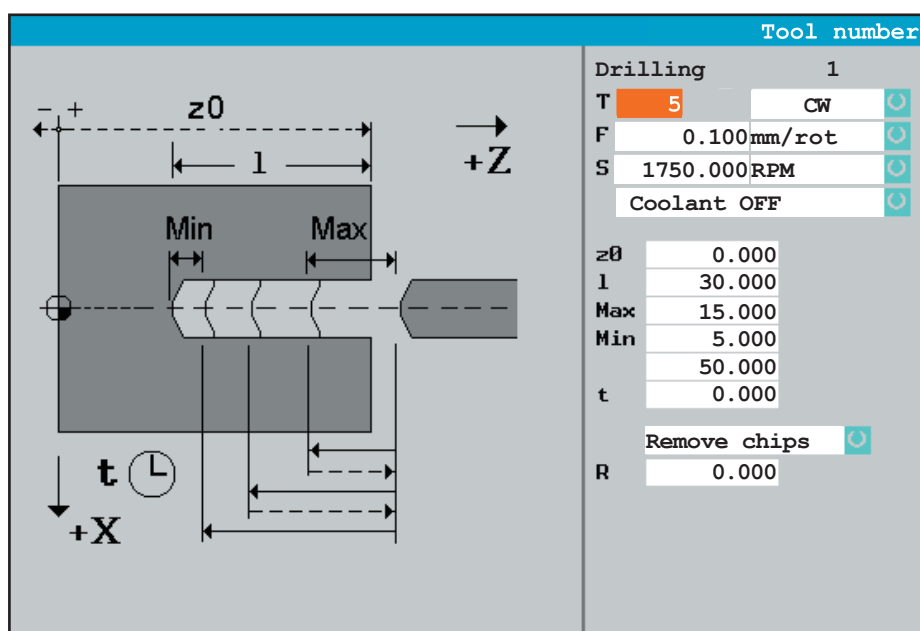

Figure 7-1. Drilling Cycle Screen
- **Fill in cycle data**, according to figure 7-1